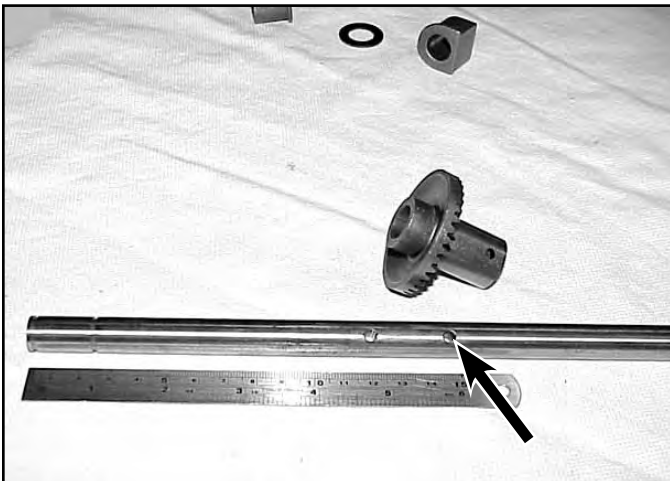

Fig 052
1. The same axle is used for both front and rear drive versions. There are two holes in the axle about one inch apart. Front wheel drive transmissions use the hole in the axle that is about 5 3/4" (14.6cm) from the end or closest to the center of the axle (Fig. 052).